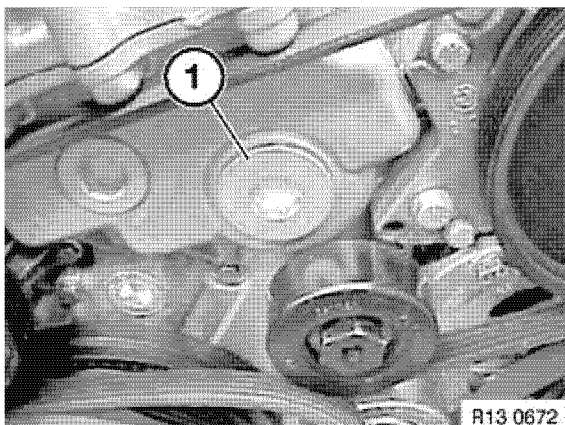

Figure 6-34
6. Install new O-ring on plug (1, **Figure 6-34**). Apply a light coat of oil to O-ring and install plug. Tighten to: